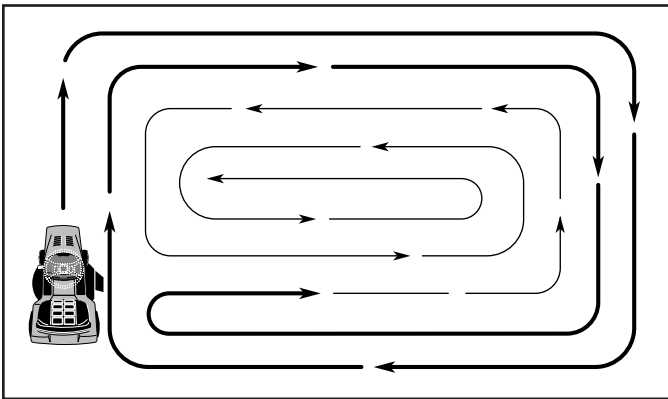

Fig. 18
- When mowing large areas, start by turning to the right so that clippings will discharge away from shrubs, fences, driveways, etc. After one or two rounds, mow in the opposite direction making left hand turns until finished (See Fig. 18).